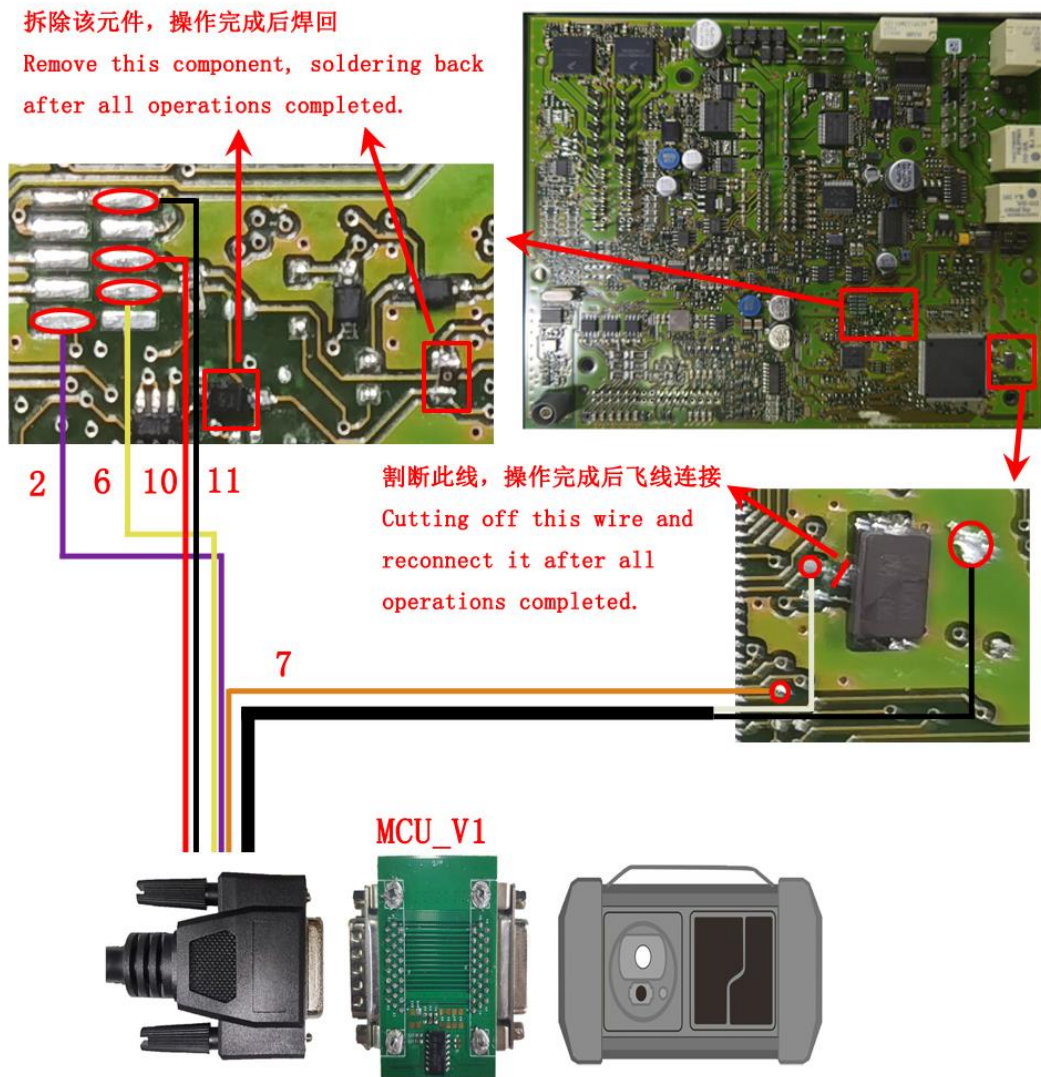

Figure 2
- 3. Choose [View the wiring diagram], as shown in Figure 2. Connect the front-end electronic module to the immobilizer programmer G3.